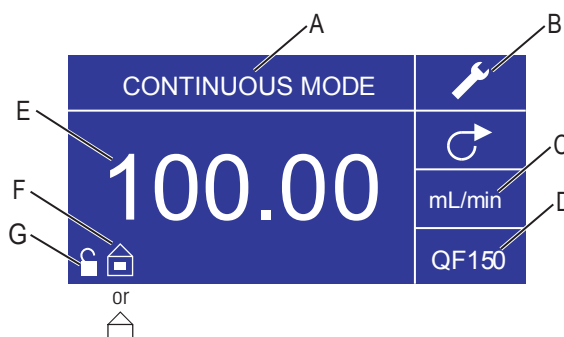

Figure 3-2. Continuous Mode Screen
- E. **Current Flow Rate:** The center digits show the flow rate of the drive in the unit of measure selected and shown to the right (see position D, Figure 3-2).